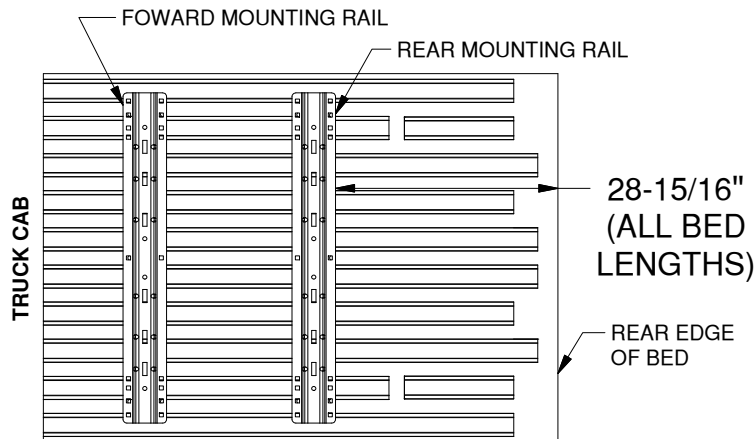

Figure B1: View over bed, showing rail layout.
1. **Layout the rear mounting rail.** Place a mounting rail onto the bed of the truck. Hook a tape measure over the rear edge of the bed (not on any part of the tailgate), measure the location for the mounting rail as shown in Figure B1. Next, center the mounting rail in the bed by measuring the distance on either side from the edge of the rail to the sides of wheel wells. The rail will be centered when both measurements on either side of the rail are the same.